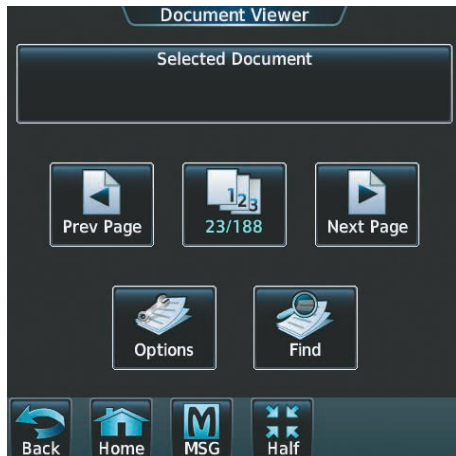

Figure 8-105 Electronic Document Viewer
- 1) From the **Home** Screen, touch **Utilities > Documents**. The Document Viewer is now displayed as in Figure 8-105.